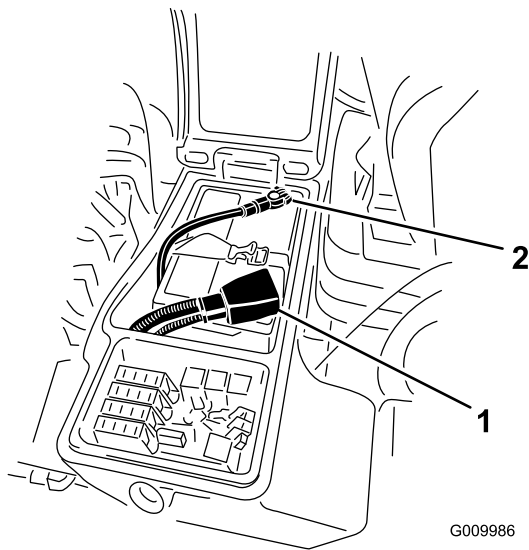

Figure 36
4. Install the positive cable (red) to the positive (+) terminal and the negative cable (black) to the negative (-) terminal of the battery (Figure 36). Secure cables to posts with capscrews and nuts. Make sure that the positive (+) terminal is all of the way onto the post and the cable is positioned snug to the battery. The cable must not contact the battery cover. Slide the rubber boot over the positive terminal to prevent a possible short from occurring.